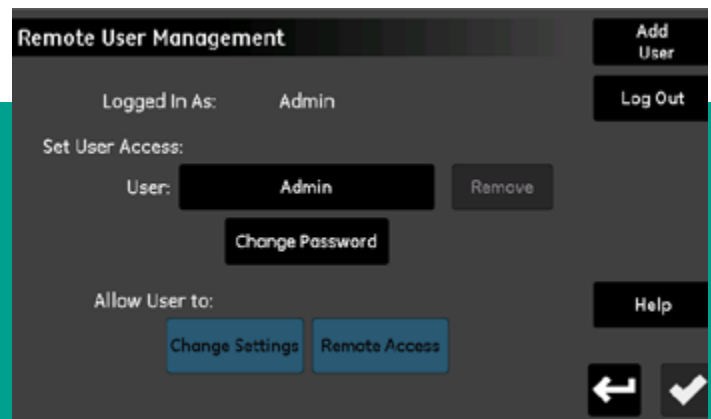

Figure 71: Web user management screen
Enter your password and tap the **log in** button. On a successful login, the *web user management* screen shown in *figure 71* below is opened.
The **operator** password should be changed at the earliest opportunity. The steps for changing the **operator** password are the same as for changing the **admin** password (see previous section). Select the **operator** account from the *web user management* screen (see *figure 71* on page 80), then enter and confirm the new password.
4. Tap the **log in** button to open the *remote user management* screen (see *figure 71* on page 80).